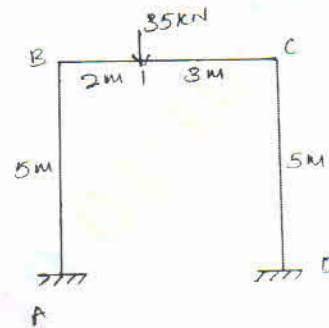

Fig.Q7
- 7 Analyse the frame shown in Fig.Q7 by the matrix stiffness method. Adopt transformation approach. (20 Marks)